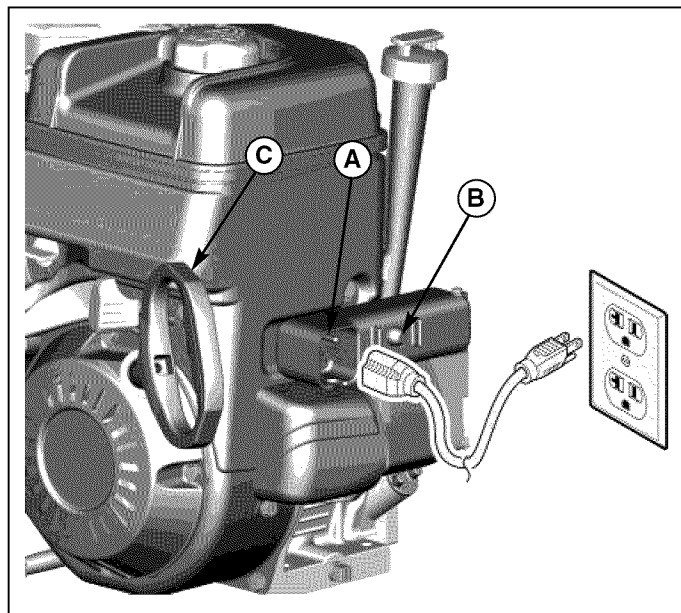

Figure 3. Start Engine - Electric
- Electric Start:** First connect the extension cord to the power cord receptacle (A, Figure 3) and then into a wall receptacle. If an additional extension cord is required, make sure it is a 3-wire.